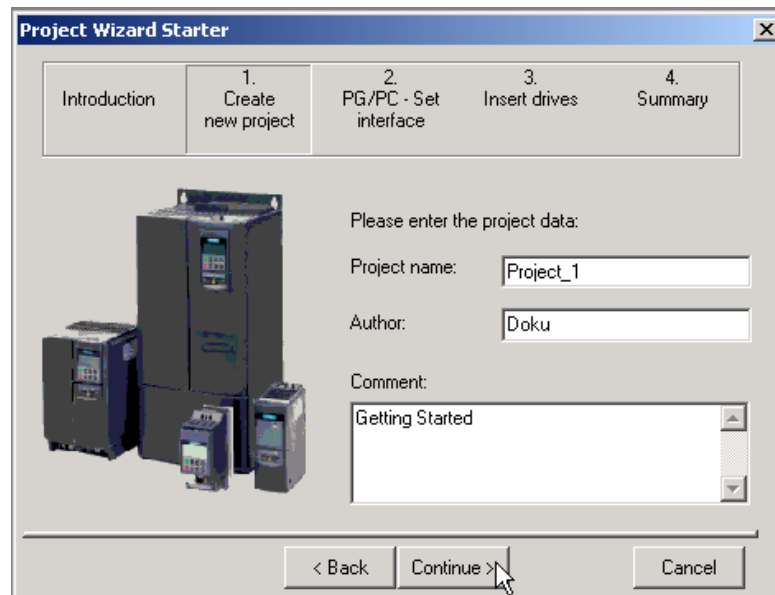

Fig. 5-2 Creating a new project
3. Enter the **project name** (e.g. "Project_1") and, if required, the **author** and a **comment** (see Fig 5-2).